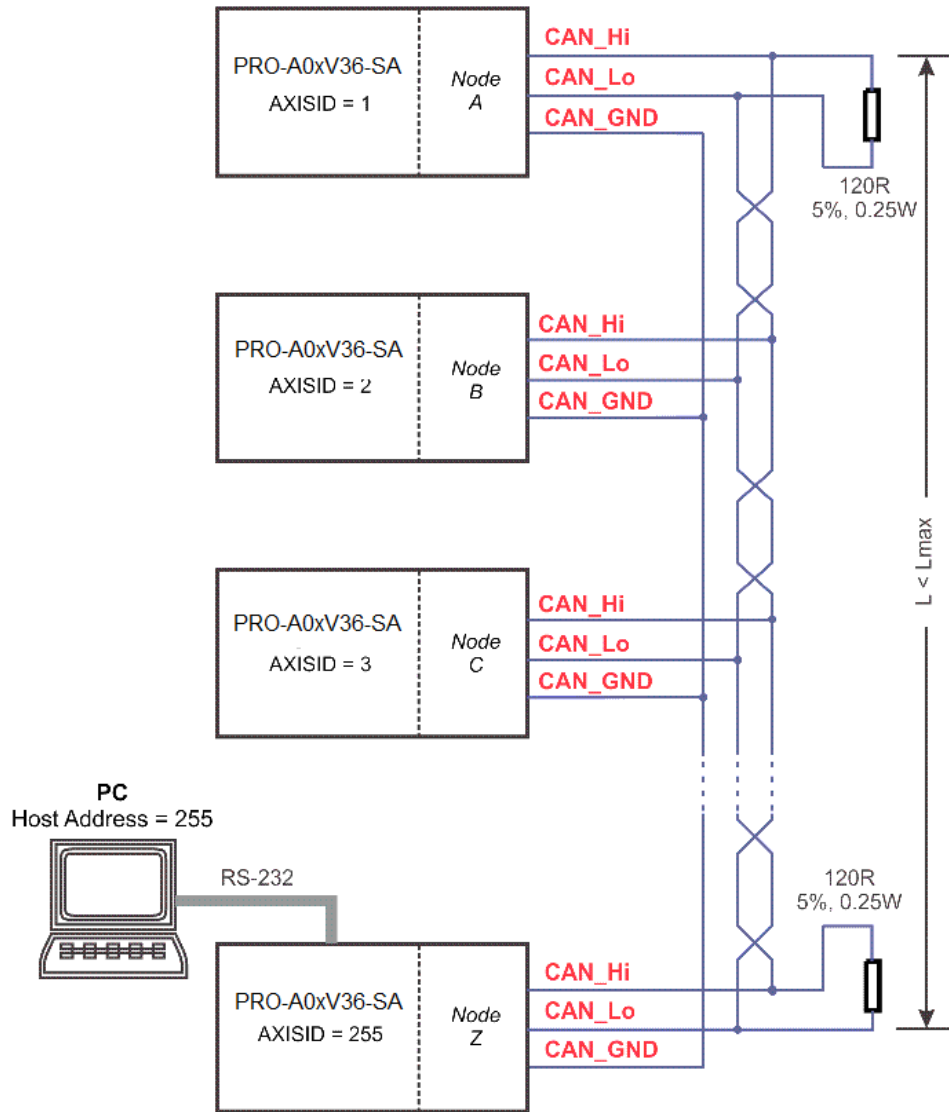

Figure 3.24. Multiple-Axis CAN network
1. The axis IDs in **Figure 3.24**, are valid for MPLCAN mode. For CANopen mode, the highest axis ID a drive can have is 127.